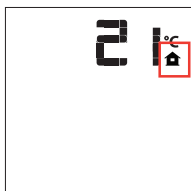

Figure 20b - Remote Control Displaying Room Temperature
1. Press the ON/OFF button on the transmitter. The transmitter LCD display will only show the room temperature and icon (see Figure 20b). The receiver disconnects and will command the DFC board to turn off the burner.